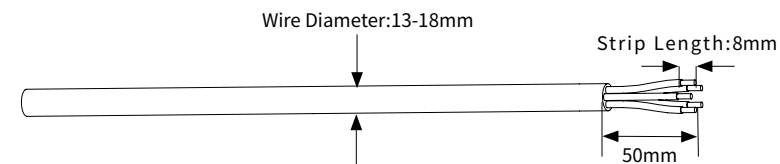

Figure 4-16
- ② According to the table above, select an appropriate cable, peel the insulation sleeve of AC cable off for 50mm, and peel off the end of 3L /PE / N wires for 8mm, as shown in Figure 4-16: